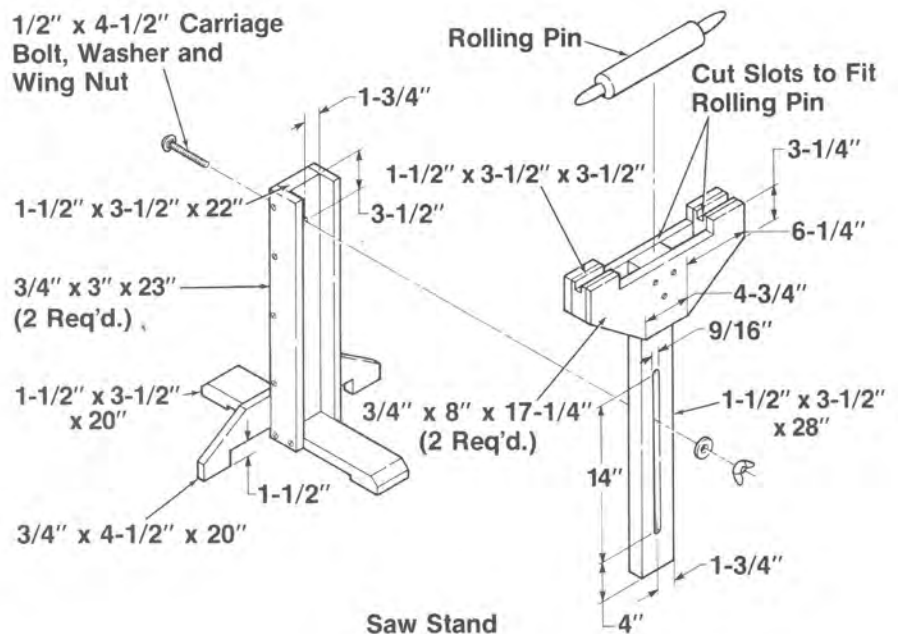

Figure 7. Following this drawing, you can build a saw stand for use with the bandsaw and other Shoptsmith tools.
- When working with long boards, support the work with a saw stand placed 1'-4" out from the machine. (See Figure 7.) In many cases you can use the rip fence mounted on the table of the Mark V as a support on the outfeed side of the bandsaw. (See Figure 8.)